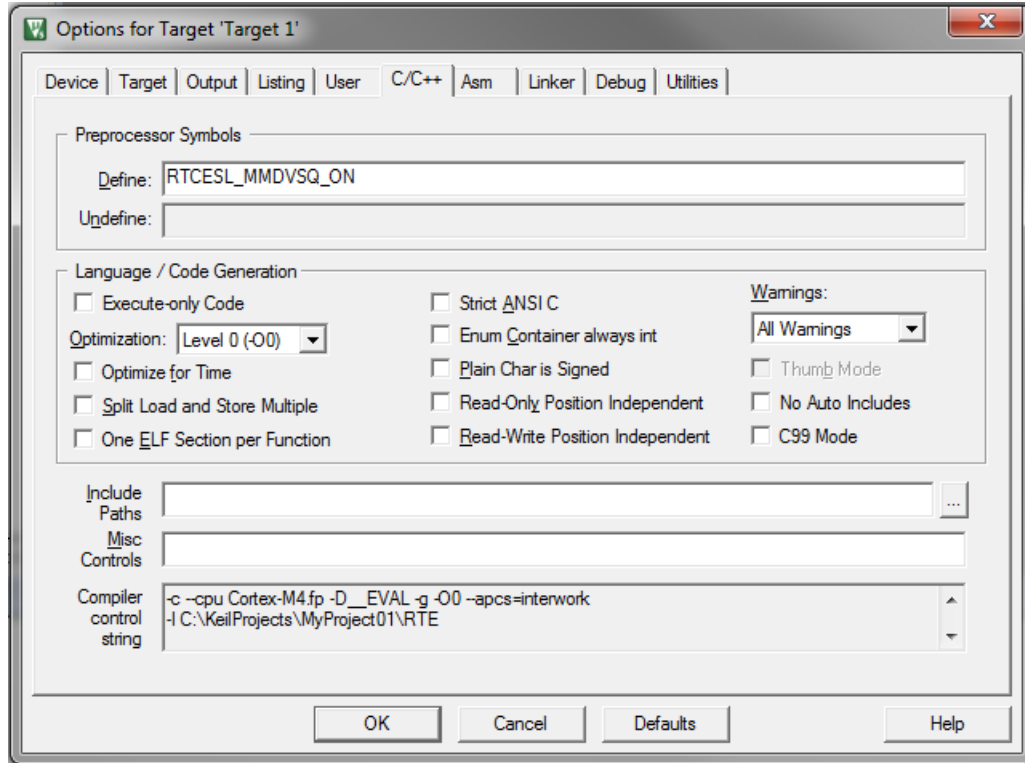

Figure 1-22. Preprocessor symbols
- Select the C/C++ tab. See Figure 1-22.